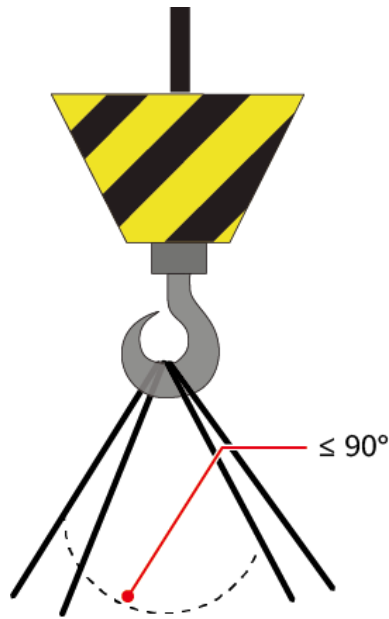

Figure 1-2
6. The included angle between any two slings shall not exceed 90° . Refer to Figure 1-2: